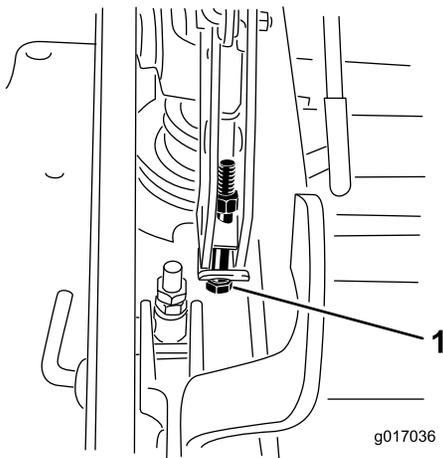

Figure 98
- If the deck is too low, tighten the single-point adjustment bolt by rotating it clockwise. If the deck is too high, loosen the single point adjustment bolt by rotating it counterclockwise (Figure 98).
- Tighten the 2 bolts at the bottom of the height-of-cut plate (Figure 98).